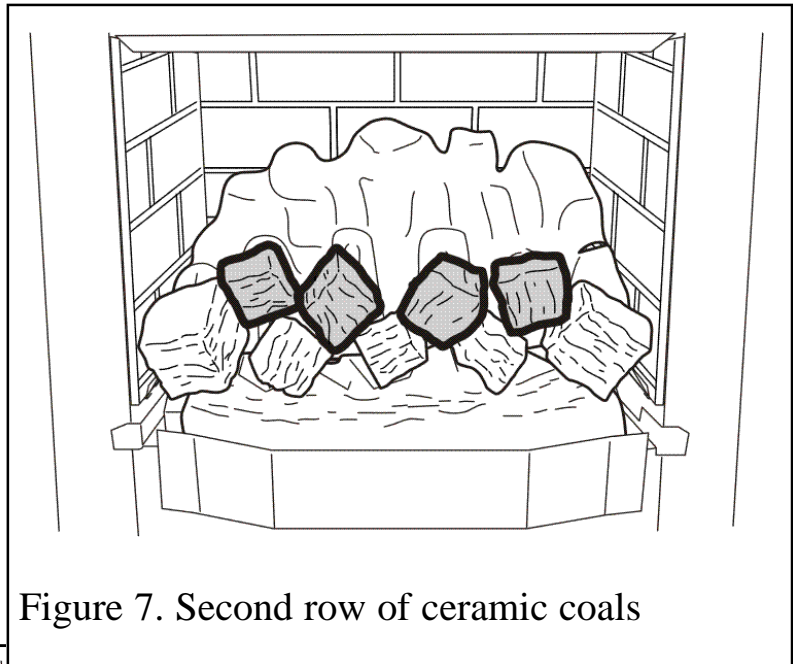

Figure 7. Second row of ceramic coals
5. Locate four small ceramic coals into the spaces on top of the first row of ceramic coals (See figure 7).